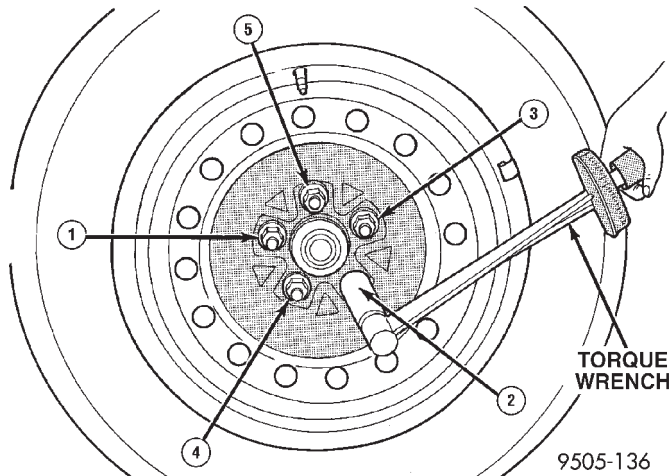

Fig. 25 Wheel Lug Torquing Sequence
(15) Install front wheel and tire assembly. Install front wheel lug nuts and tighten in the correct sequence (Fig. 25). Tighten lug nuts to 135 N·m (100 ft. lbs.).